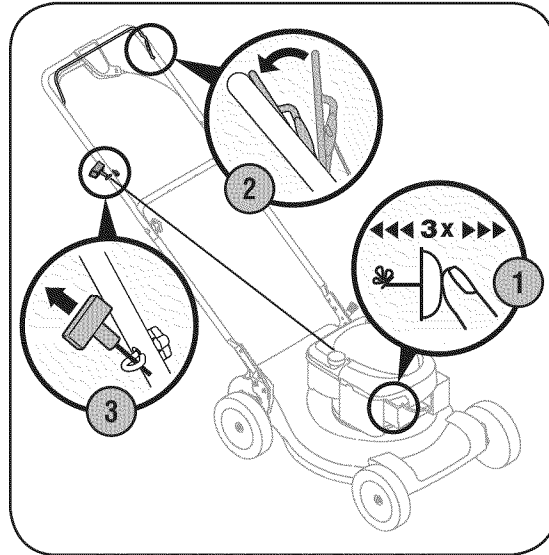

Figure 4-3: Starting the Briggs & Stratton engine.
1. If equipped, push primer three times. Wait about two seconds between each push. See Figure 4-3. In temperature around 55° F or below, prime five times. Do not prime to restart a warm engine.
2. Standing behind the mower, squeeze the blade control against upper handle as shown in Figure 4-3.